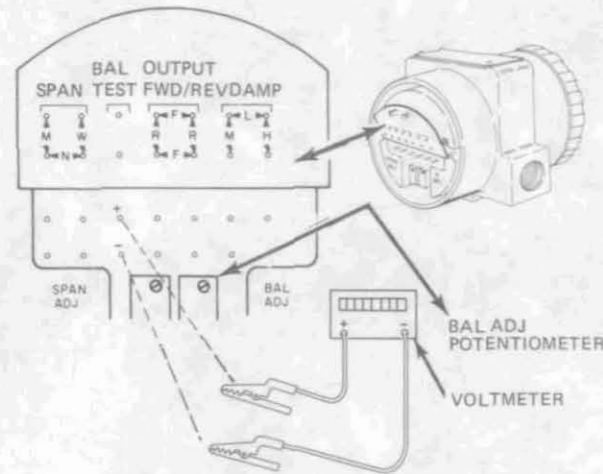

Figure 17
1. Connect voltmeter to BAL TEST terminals (Figure 17).